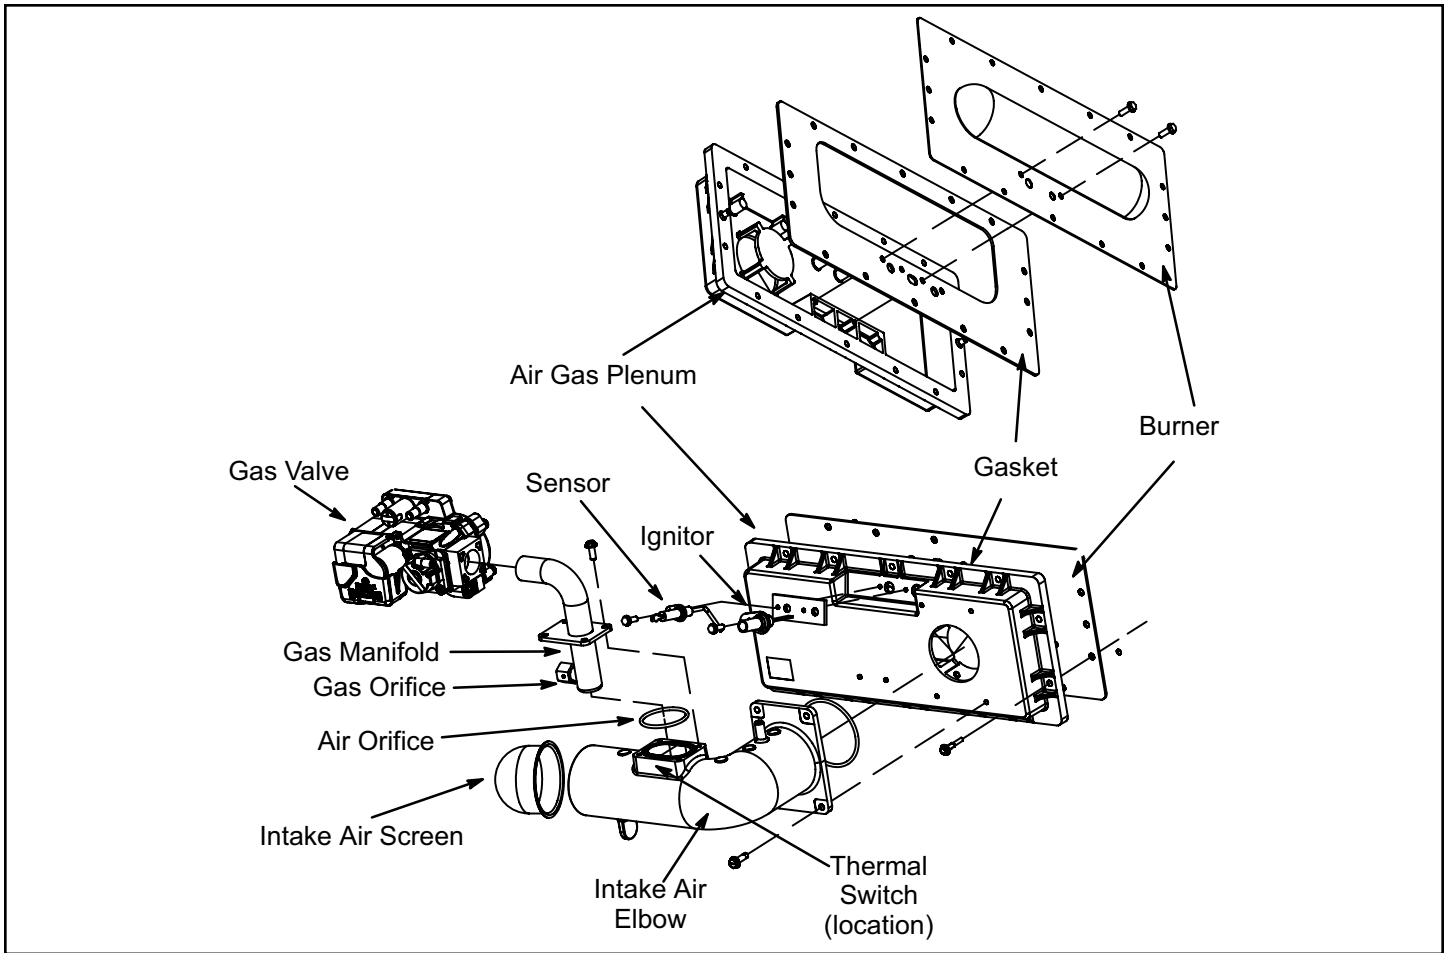

Figure 6. Heating Components
The hot surface ignition control system consisting of an integrated control (Figure 3 with control terminal designations in tables 1, 2 and 3), sensor and ignitor (Figure 6). The integrated control and ignitor work in combination to ensure furnace ignition and ignitor durability. The integrated control, controls all major furnace operations. The integrated control also features a RED LED for troubleshooting and two accessory terminals rated at (1) one amp. See Table 4 for troubleshooting diagnostic codes. The nitride ignitor is made from a non-porous, high strength proprietary ceramic material that provides long life and trouble free maintenance.
Thermal Switch (Figure 6)
Flame Sensor (Figure 6)
Gas Valve (Figure 6)
Ignitor (Figure 6)
Burners are factory set and require no adjustment. Always operate the unit with air gas plenum in place. The burner has one orifice located between the gas valve and the air intake assembly (Figure 6). To check or replace the orifice remove the intake air screen, coupling and intake air elbow. Using a 5/8" socket, go through the elbow and unscrew the gas orifice. The burner uses an orifice (see Table 7) that is precisely matched to the burner input. The burner can be removed for service. If burner has been removed, it is critical to replace all gaskets.